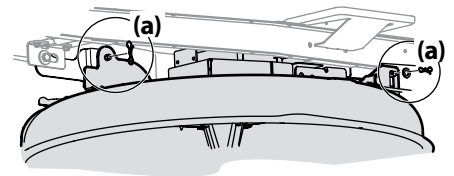

Figure 4-5
5. Remove the remaining bow-tie cotter pins (a) securing the deck to the rider, as shown in Figure 4-5.